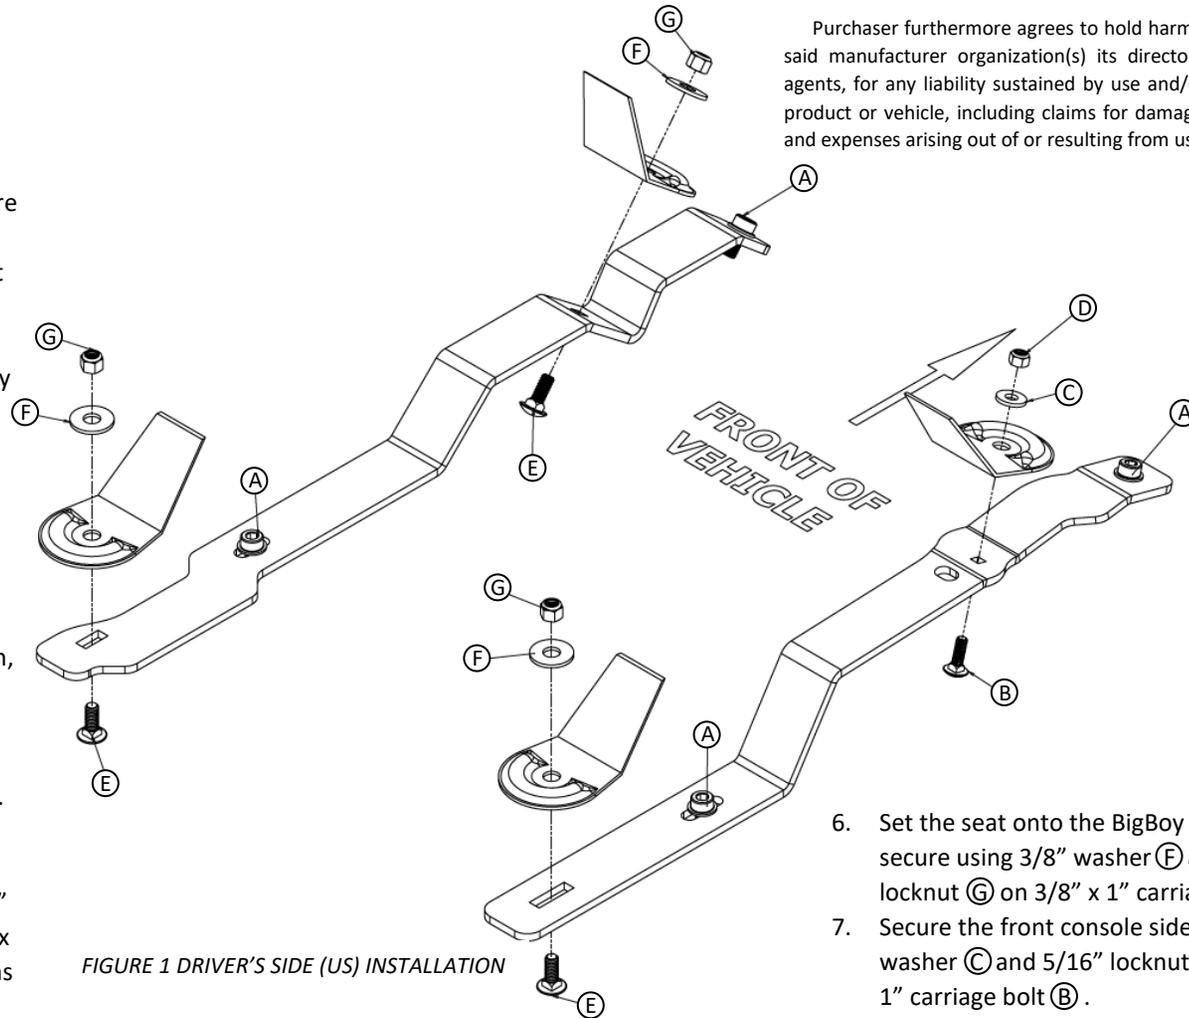

FIGURE 1 DRIVER'S SIDE (US) INSTALLATION
- Position the seat in the full forward position, and then remove the rear seat bolts (A) and save for later.
- Move the seat to the full rearward position, and then remove the front seat bolts (A) and save for later.
- Install the BigBoy seat brackets using the four bolts saved during removal (A). For ease of installation, be sure to slide all 3/8" x 1" carriage bolts (E) and especially 5/16" x 1" black carriage bolt (B) into their positions under the bracket as shown in Figure 1.